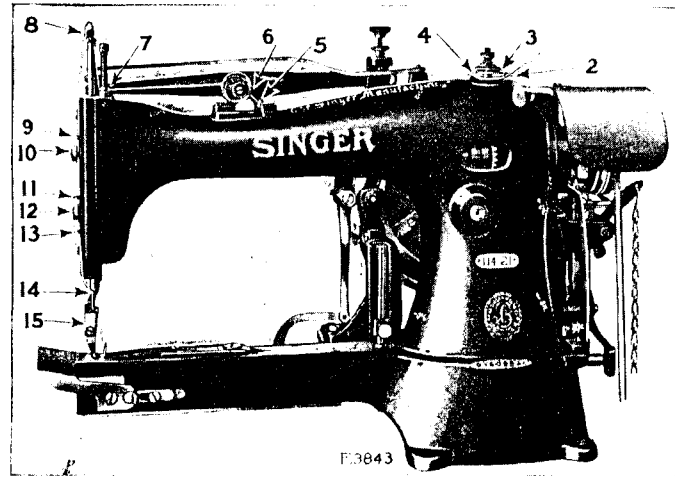

FIG. 4. THREADING THE NEEDLE
the hole (2, Fig. 4) in the thread nipper bracket on top of the machine, around the left and between the thread nipper discs (3), into the eyelet (4), into the wire thread guide (5), over between the tension discs (6), through the slot (7), under the thread controller spring, toward you over the thread take-up roller (8) at the top of the needle bar, down into the thread guide (9) at the front of the face plate, around the left side into the thread retainer (10), down through the thread guide (11), around the left side into the thread retainer (12), down through the thread guide (13), through the hole (14) at the lower end of the needle bar and from front to back through the eye of the needle (15). Draw about two inches of thread through the eye of the needle with which to commence sewing.